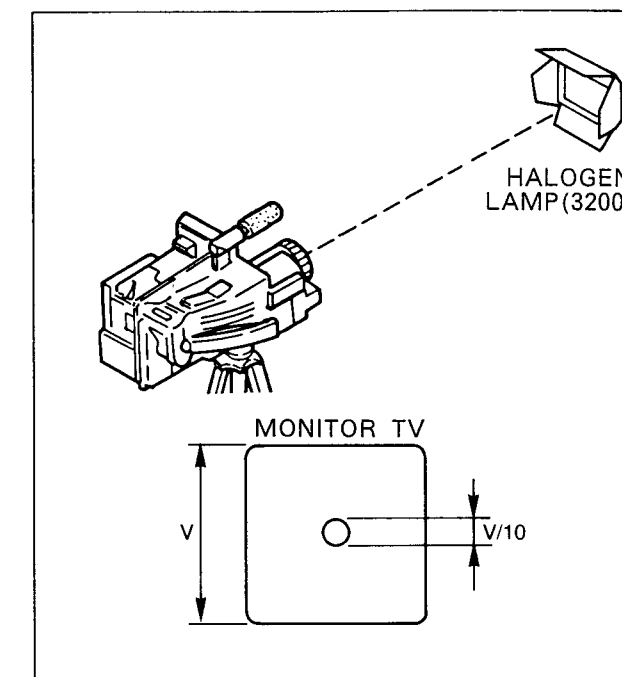

Fig. C7-1
- (1) Zoom all the way in (Fully tele position) aim the camera at the Halogen Lamp (3200 degrees K) as shown in Fig. C7-1.